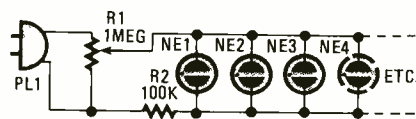

Fig. 8. This simple circuit can be used to match the firing point of several neon lamps.
**Matching Neon Lamps.** To match the firing voltages of two or more neon lamps, connect several lamps (maybe 20 or more) in parallel and with a 100k series resistor. With a 1 megohm potentiometer (see Fig. 8) connected to the circuit, slowly increase the voltage until one lamp or more lights. If more than one lamp lights, they are matched. If only one lights, remove it from the circuit. Often, another will light. Those two are now matched. If another does not light, discard it and increase the voltage until another lights. Repeat for matched lamps.